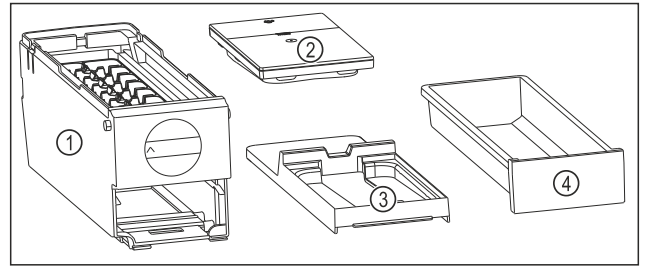

Fig. 214 Components of the EasyTwist-Ice
- ▶ EasyTwist-Ice is dismantled into four parts. (see Fig. 214)
- ▶ Only dismantle the EasyTwist-Ice into the components shown. (see Fig. 214)
- ▶ Clean the EasyTwist-Ice body Fig. 214 (1) as a whole.